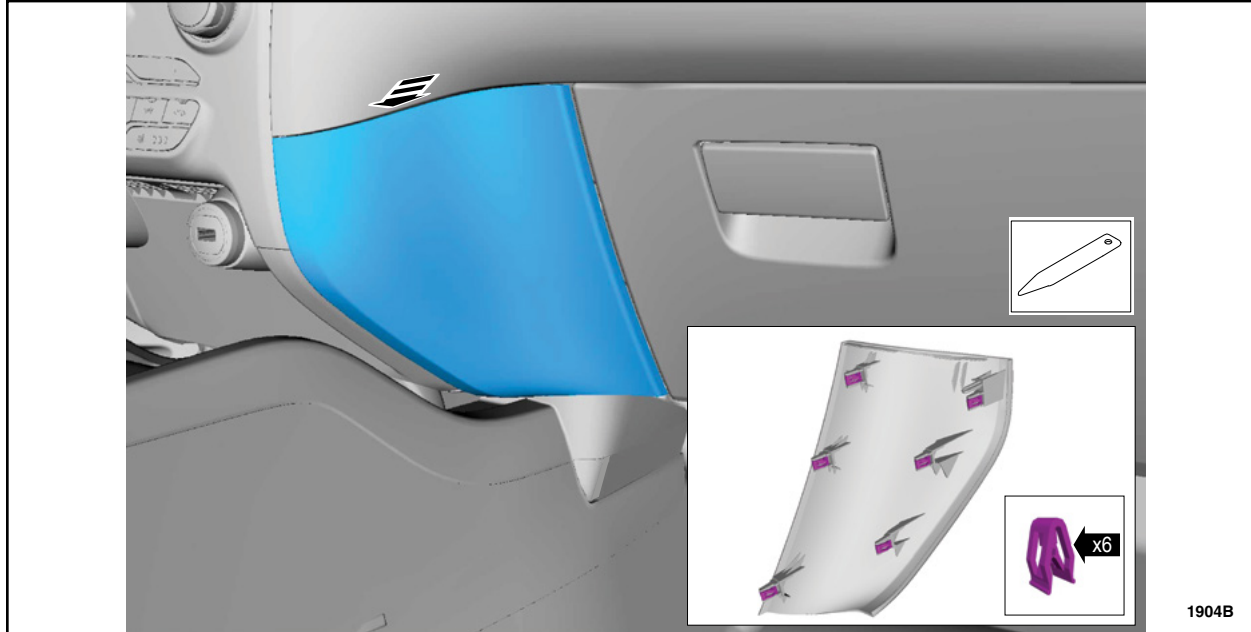

FIGURE 1
See Figure 1.
15. Install the lower RH center stack trim panel. See Figure 1.